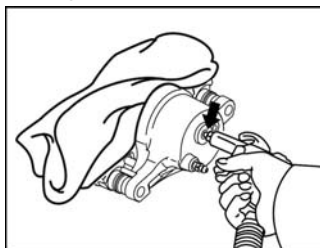

Fig. 2-54
① Place a cloth or equivalent between the slave cylinder and piston.
② Blow out the piston from the slave cylinder by compressed air. See Fig. 2-54. Note: Do not put your hand before the piston when blowing the compressed air.